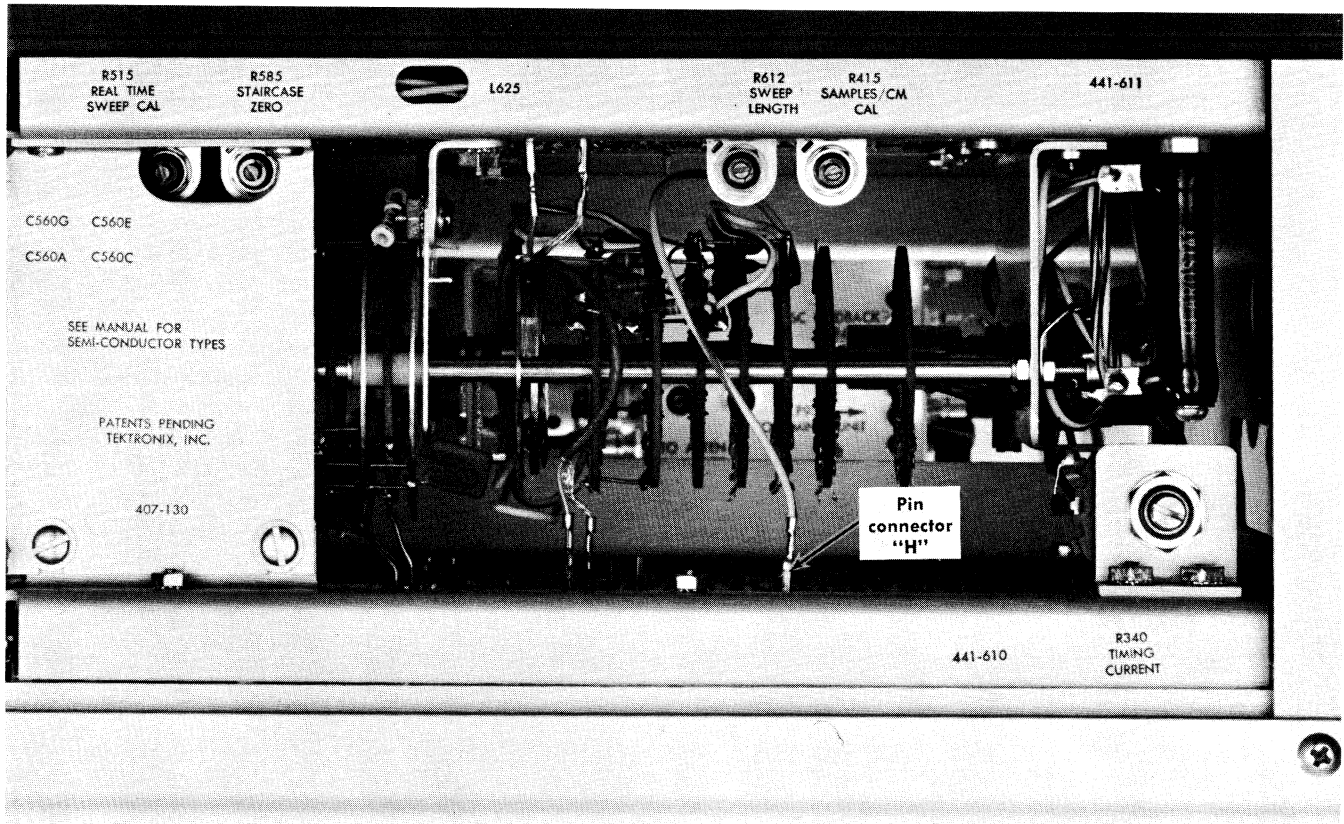

Fig. 5-29. Location of inverter input at pin connector "H".
- Connect the test probe to pin connector "H". The location of pin "H" is shown in Fig. 5-29.